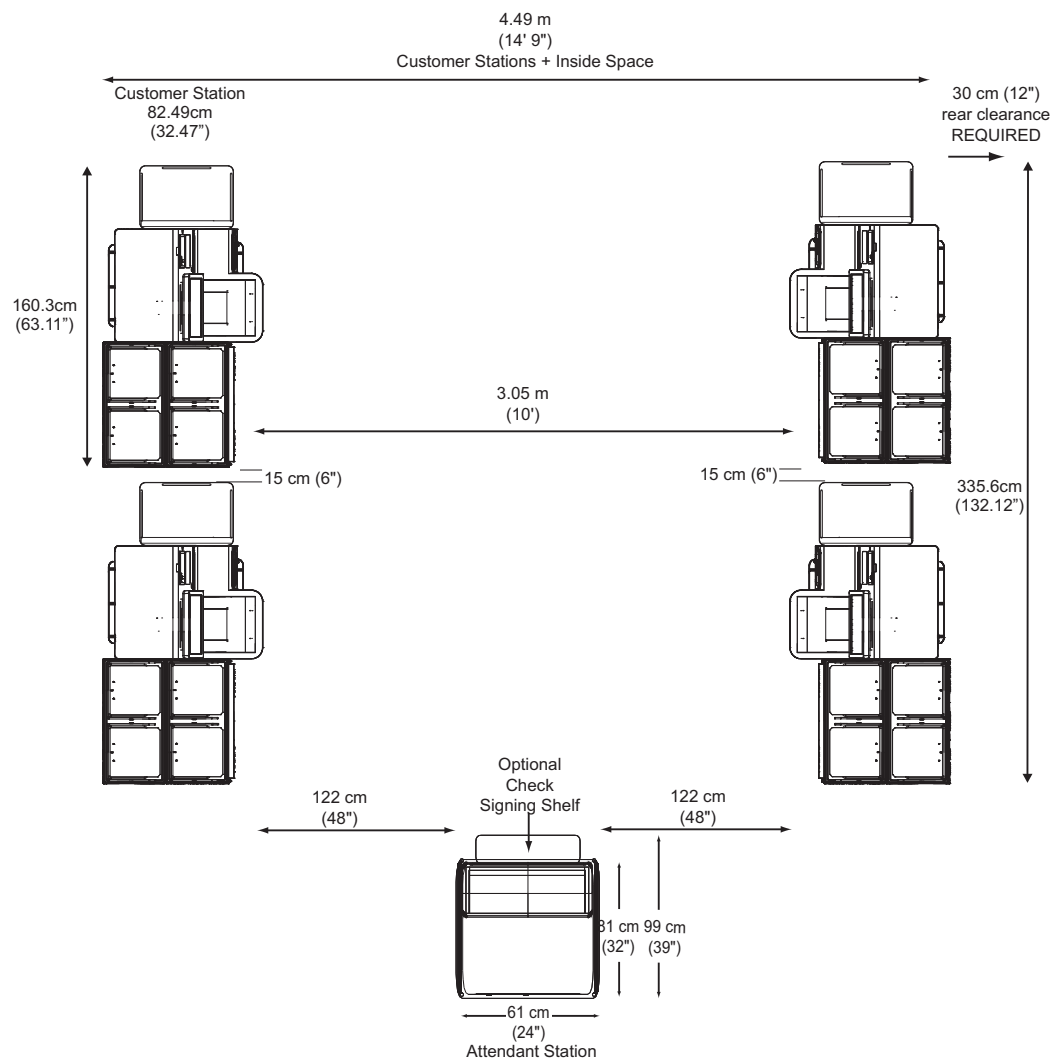

Figure 2.1 Four U-Scan4 Customer Stations with Attendant Station (A)
- There must be a distance of 122 mm (48") between the Attendant Station and the nearest spot on the Customer Station casing when the Attendant Station is configured as in Figure 2.1 on page 5. This distance ensures adequate space for customers to exit the self-checkout area. This space may be calculated diagonally.